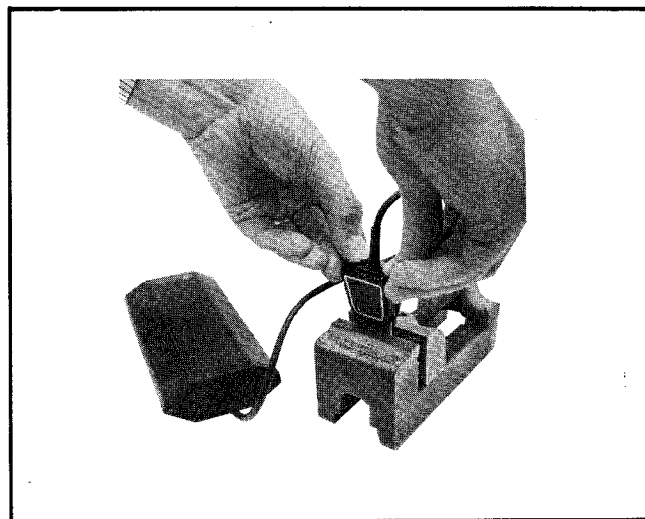

Figure 4
14. Place teeth end of cover in vise as in Figure 4, use soft protective material over vise jawfaces, tighten vise just enough to bring pin guides together.